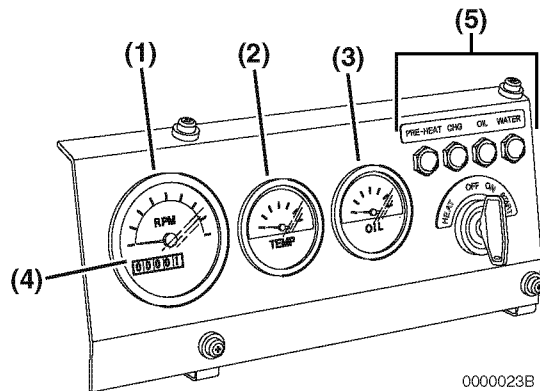
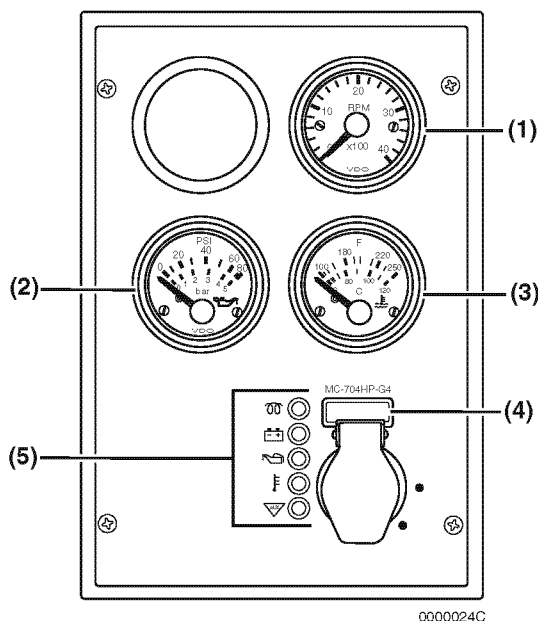

Figure 4
Figure 5
1. While the engine is running, check the gauges for normal indications. The gauges shown in **Figure 5** and **Figure 4** are provided for illustrative purposes only.
- **Tachometer (Figure 5, (1)) or (Figure 4, (1))** - Make sure the engine speed is within normal limits. See *Engine Speed Specifications* on page 112.
- **Engine Oil Pressure (Figure 5, (2)) or (Figure 4, (3))** - Make sure the engine oil pressure is within normal limits. See *Principal Engine Specifications* on page 113.
- **Engine Coolant Temperature (Figure 5, (3)) or (Figure 4, (2))** - Make sure the engine coolant temperature is within normal limits.
- **Hour Meter** - The hour meter display (Figure 5, (4)) or (Figure 4, (4)) shows the total number of hours the engine has run. This is useful for planning periodic maintenance operations. See *Periodic Maintenance Schedule* on page 69.
2. After the engine has reached operating temperature, all of the indicators (Figure 5, (5)) or (Figure 4, (5)) should be off. If any of the indicators are on, shut down the engine and have the necessary repairs performed.